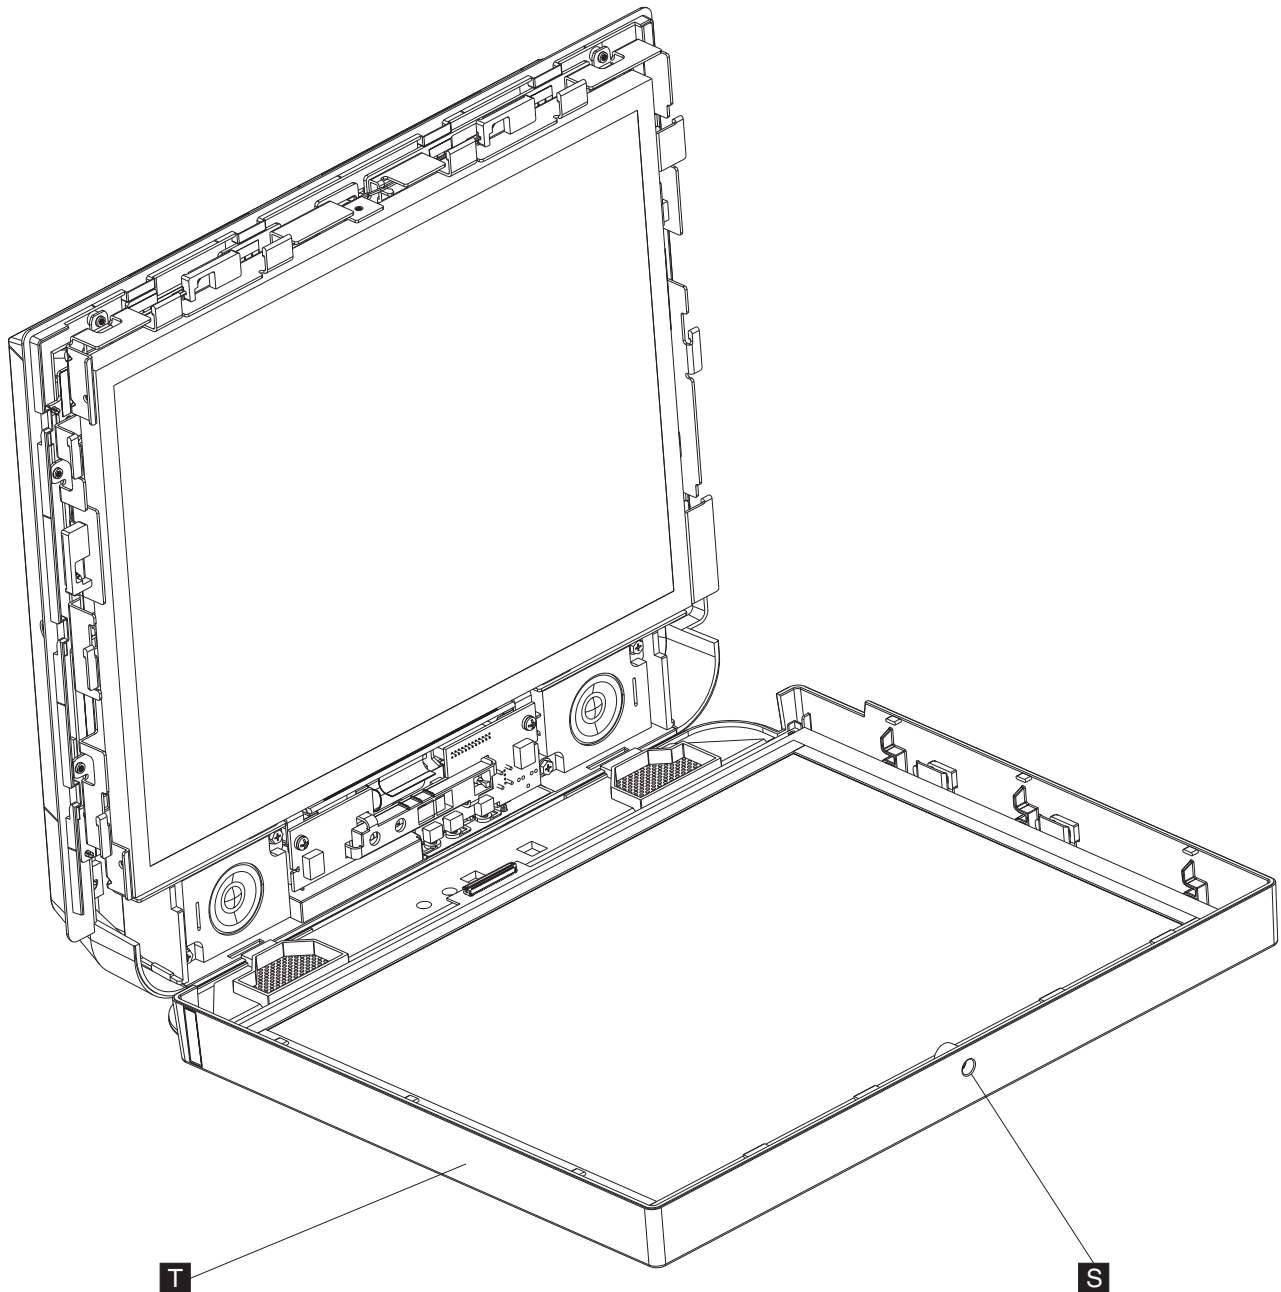

Figure 30. Removing the front cover/touch assembly
3. Open the front cover/touch assembly (**T** in Figure 30) by loosening the captured screw (**S**).
4. Slide the front cover/touch assembly (hereafter referred to as the front assembly) upward approximately 8 mm (0.3 in) then rotate the front assembly downward from the LCD to open. See Figure 30 on page 45.
Note: See the Open and Locked connector lever positions shown in Figure 30 on page 45.